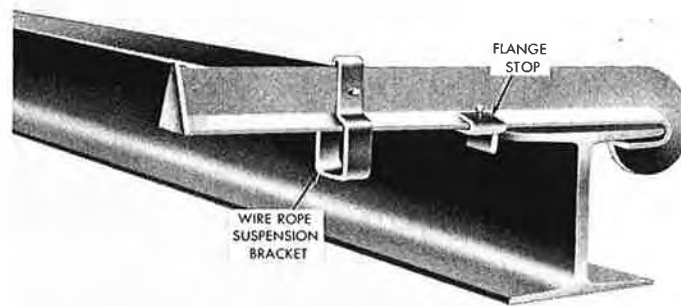

Figure 52
***Truss Outrigger (Top Cord and Bottom Cord) SA-1009 and SA-1009B (Fig. 52)***